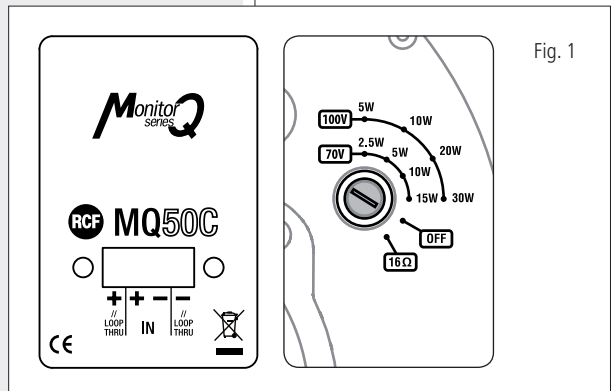

Fig. 1
1. Turn the rotary switch (Fig. 1) and select the voltage of the line and the power to be delivered.